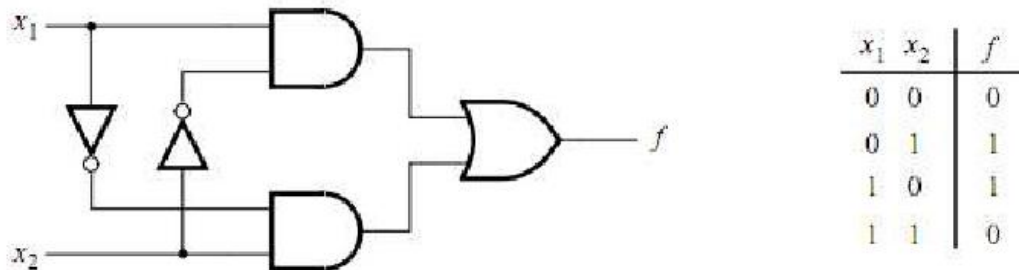

Figure 1. The two-way light control circuit
**The running example** for this lab experiment is a simple circuit for two-way light control circuit shown in Figure 1. The procedure is exhibited step by step in the lab.